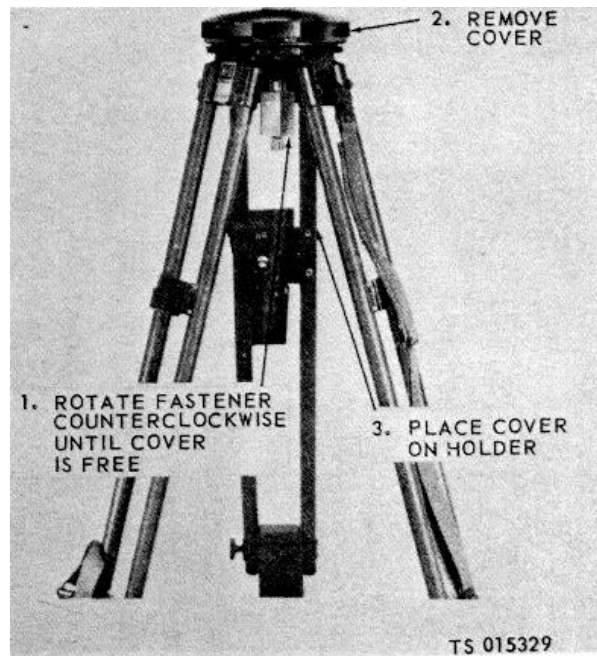

Figure 4-4. Tripod head cover.
- b. *Removal.* Refer to figure 4-4 and remove the tripod head cover.